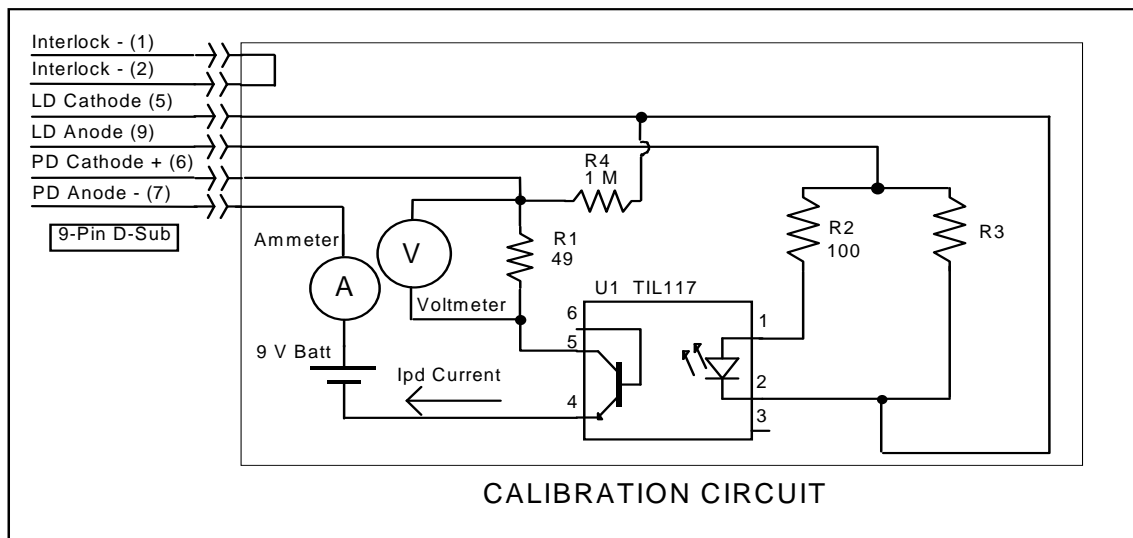

Figure 5.1 I_{PD} Calibration Circuit
- a. Select the CSM-39050 to be calibrated by pressing the appropriate (ADJUST) switch. With the LASER output off, connect a calibrated ammeter to the PD Anode output of the CSM-39050, and connect the circuit of Figure 5.1 to the LASER and PD outputs.
- a. With the LASER output off, connect a calibrated ammeter to the PD Anode output of the CSM-39050, and connect the circuit of Figure 5.1 to the LASER and PD outputs.
If a calibrated ammeter (with 0.1 μA resolution) is not available, place a calibrated DMM (with 0.1 mV resolution) to measure the voltage across the resistor, R1, as shown in Figure 5.1. Calculate the current in the following steps by using Ohm's Law: